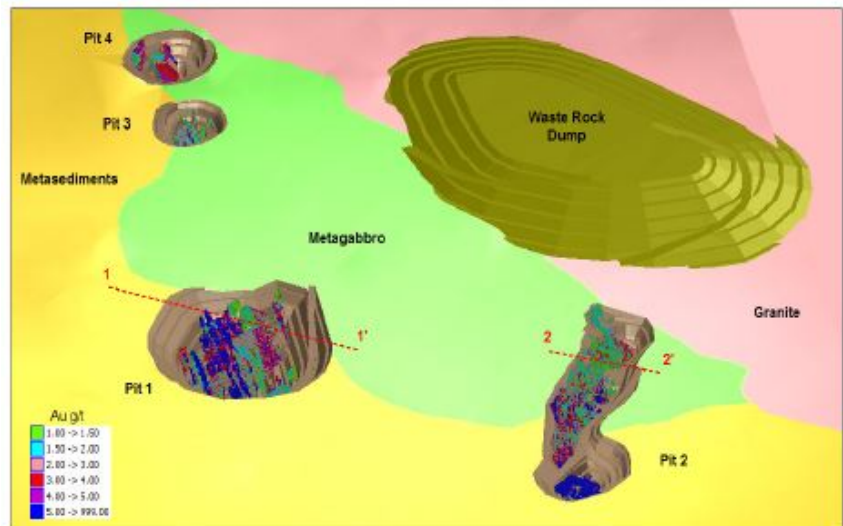

Figure 1: Makabingui Gold Deposit Pit location
The program consists of **4,025** metres of reverse circulation (RC) grade control drilling primarily in Pit 1 and Pit 2 of the Makabingui Gold deposit (Figure 1).